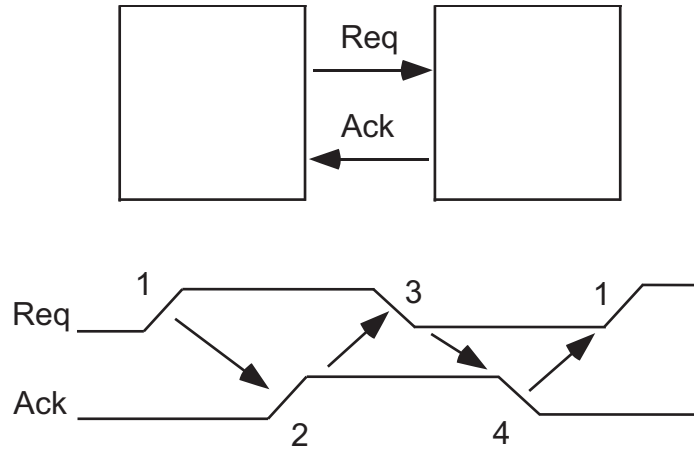

Figure 4.1: Four-phase Handshake Protocol
It is important to simulate PixelFootPrint so that you can confirm that your pixel's event-generation circuitry generates a request signal (Figure 4.1) with rise and fall times of less than 5 nanoseconds ($0.25\mu\text{m}$ technology). Typically, some form of positive feedback is required to achieve this.¹
- PixelRcvEnv—simulates receiver environment, appropriately following the handshaking protocol (Figure 4.1).
- PixelXmtEnv—simulates transmitter environment, appropriately following the handshaking protocol (Figure 4.1).
W-Edit plots of 'pixelttest.sp' simulation. (a) Each successive synin leaks charge off vpe, which leaks charge off vlpf and ultimately vmem. Once vmem passes a threshold, positive-feedback kicks in to generate spikes. (b) Following the four-phase handshake protocol (see Figure 4.1), PixelRcvEnv selects PixelRcvIntfc by pulling nrsely and nrselx (not shown) low, which prompts PixelRcvIntfc to acknowledge with npixack; it also pulls synin high (see (a)). (c) When PixelXmtIntfc sees nreq go low (due to spikes shown in (a)), it makes a request to PixelXmtEnv by pulling ntreqy low. PixelXmtEnv acknowledges by taking tsely high. This prompts PixelXmtIntfc to pull ntreqx low; it asserts npixrst (not shown) concurrently to clear nreq by terminating the spike. This prompts ntreqy to go high, which is acknowledged by tsely going low, and that prompts ntreqx to go high.